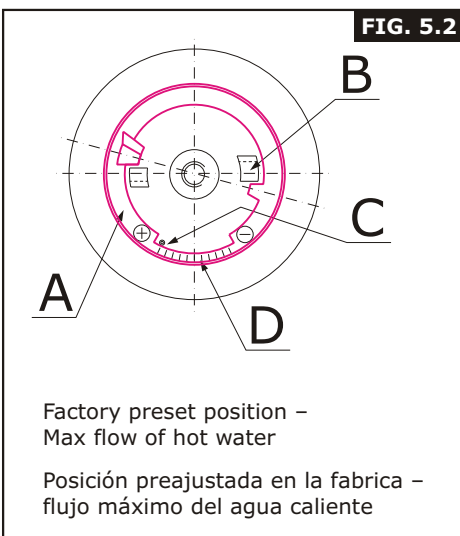

FIG. 5.2
- ➔ remove the red ring (A) from the cartridge by pulling it away,
- ➔ rotate the ring clockwise and put it back onto the cartridge - align the notch (dot) on the blue cartridge body with one of the lines of the scale on the ring between ⊕ and ⊖ - signs - see fig. 5.2 & 5.3;
- ➔ check if the temperature of water is correct if not, change the position of the red ring (A).